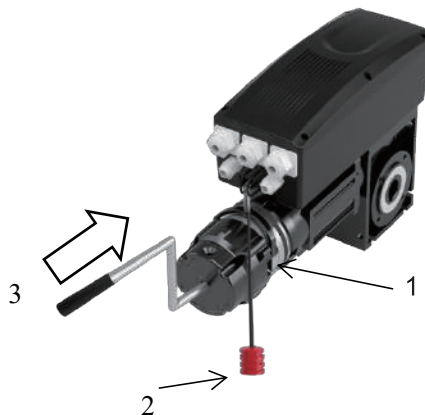

Fig 5
- The emergency release is activated when the brake (1) is pulled by the cord (2) to the direction of arrow in Fig. 5.
- Insert the emergency crank (3) to hand crank housing in Fig. 5.